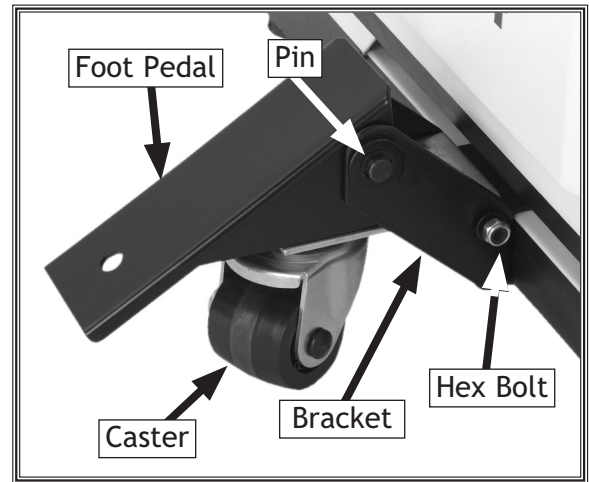

Figure 9. Foot pedal and caster assembled.
5. Lock the caster and pedal in place with the E-clip and washers, as shown in **Figure 9**.